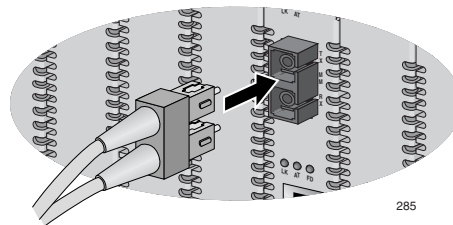

Figure 29. Connecting to the Dual SC Fiber Optic Port
2. Connect the appropriate optical cable to the port, as shown in Figure 29.